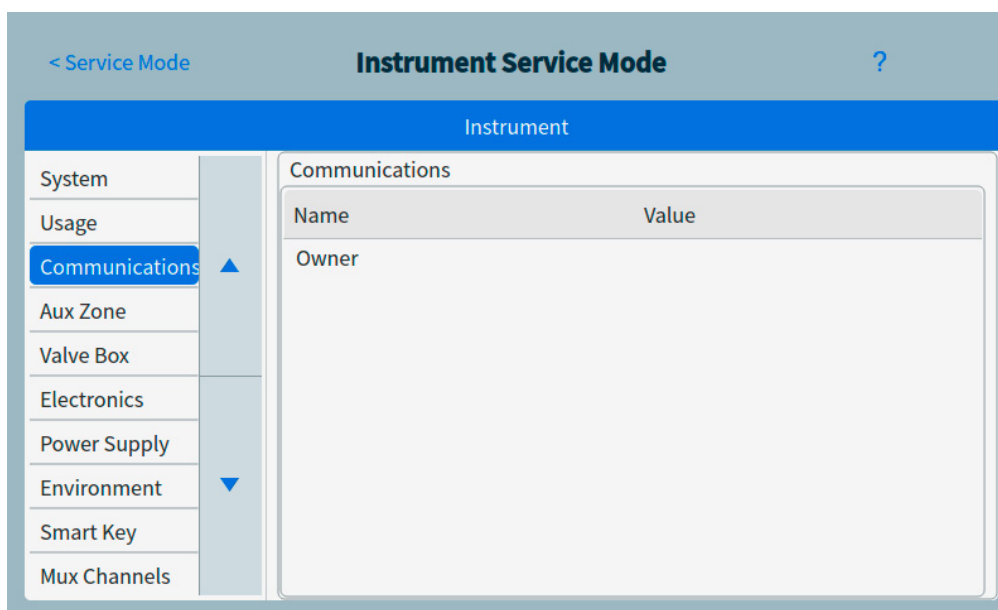

Figure 40. Instrument Service Mode page
- 1 Select the desired component type. The Service Mode page for the selected component appears. See Figure 40.